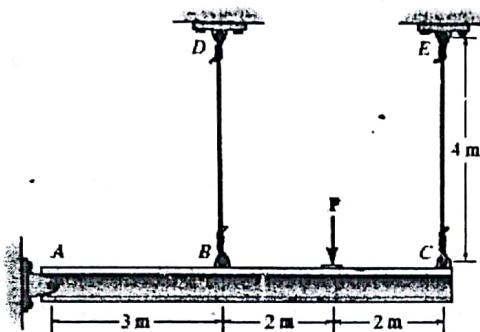

Fig. 2
2. The rigid beam shown in Fig. 2 is supported by a pin at A and wires BD and CE. If the load  $F$  on the beam causes the end C to be displaced 10 mm downward, determine the normal strain developed in wires CE and BD. [ $\epsilon_{CE} = 0.00250\text{mm/mm}$ ;  $\epsilon_{BD} = 0.00107\text{mm/mm}$ ]